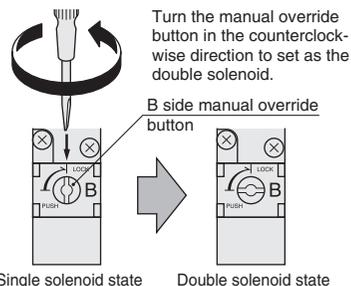

Figure 2 The manual override button is protruding.
2. As shown in Fig.2, use a small screwdriver, etc. to turn the manual override on the B side by 90 degrees in the counterclockwise direction, so that the manual override button's slit is horizontal, as shown on the right side of the figure. Then the unit can be used as a double solenoid valve. When using it as a double solenoid valve, the button is used as the manual override button for the B side.